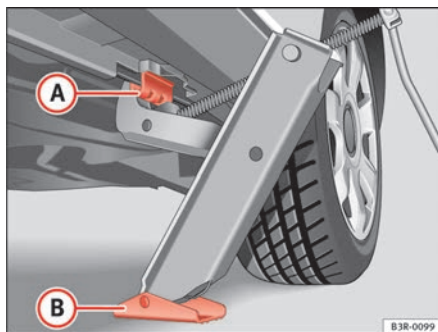

Fig. 180 Changing the wheel: Jack
- Align the jack so that the arm of the jack fits on the rib under the door sill ⇒ fig. 180 (A) and the movable base plate of the jack (B) is flat on the ground.